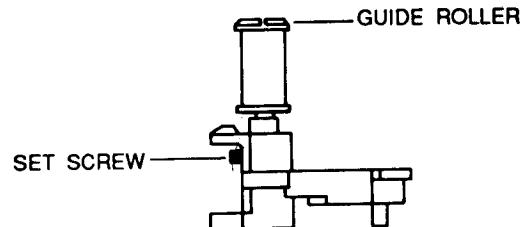

Fig. 12
6. Slightly loosen the set screw at the lower part of the S, T-guide rollers with a (Hex Wrench - 0.9mm) so that the guide roller can be adjusted with reasonable tightness. (Refer to Fig. 12)